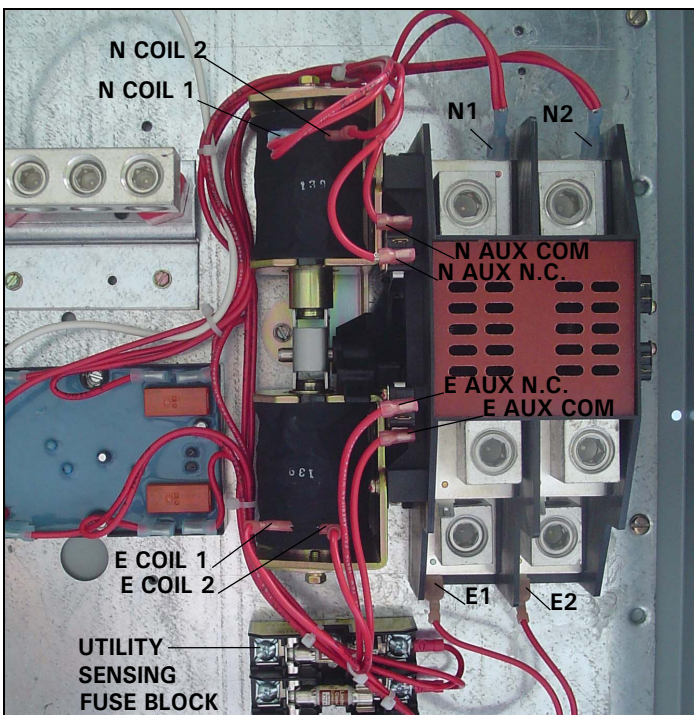

Figure 33. Wires to Disconnect from the Contactor.
Step 5: Note their location then disconnect the twelve (12) red wires from the contactor (Refer to the wiring diagram in Figure 20 for connection locations on the contactor) (see Figure 33).
Step 12: Connect the twelve (12) red wires to the contactor at the locations noted before they were removed (Refer to the wiring diagram in Figure 20 for connection locations on the contactor (see Figure 33).
Step 3: Note their location then disconnect the twelve (12) red wires from the contactor (see Figure 33).
Step 13: Reattach the twelve (12) red wires to the contactor. Examine each wire to find the name then refer to Figure 33 for the correct connection point.
Step 15: Secure the contactor to the base plate using the four (4) screws supplied.
- Step 16:** Reattach the twelve (12) red wires to the contactor. Examine each wire to find the name then refer to Figure 33 for the correct connection point.